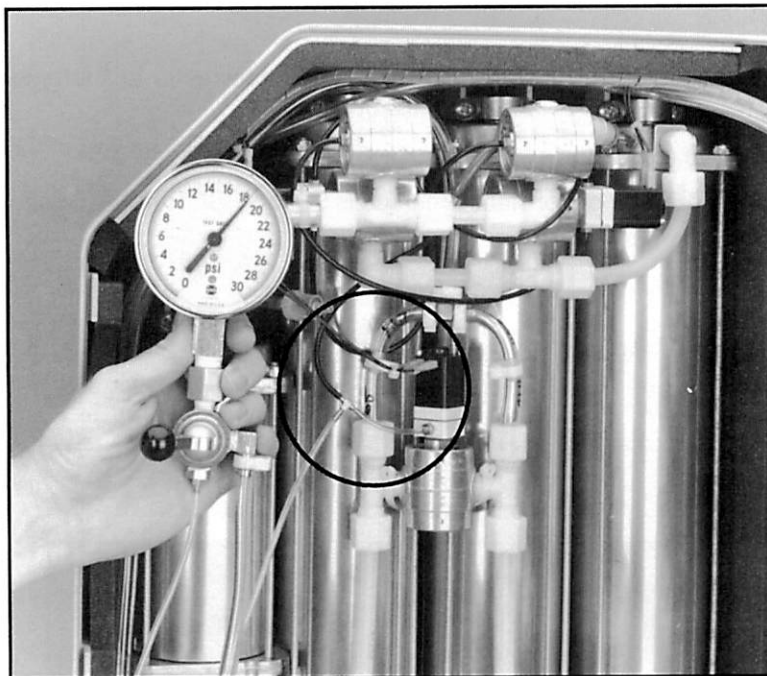

Figure 3-3: Pneumatic Test Kit Connection/Testing
4. Locate and disconnect the small pilot air tubing leading to the brass nipple on the balance solenoid valve. Tee in the 1/16" ID tubing from the pneumatic test kit (Figure 3-3).